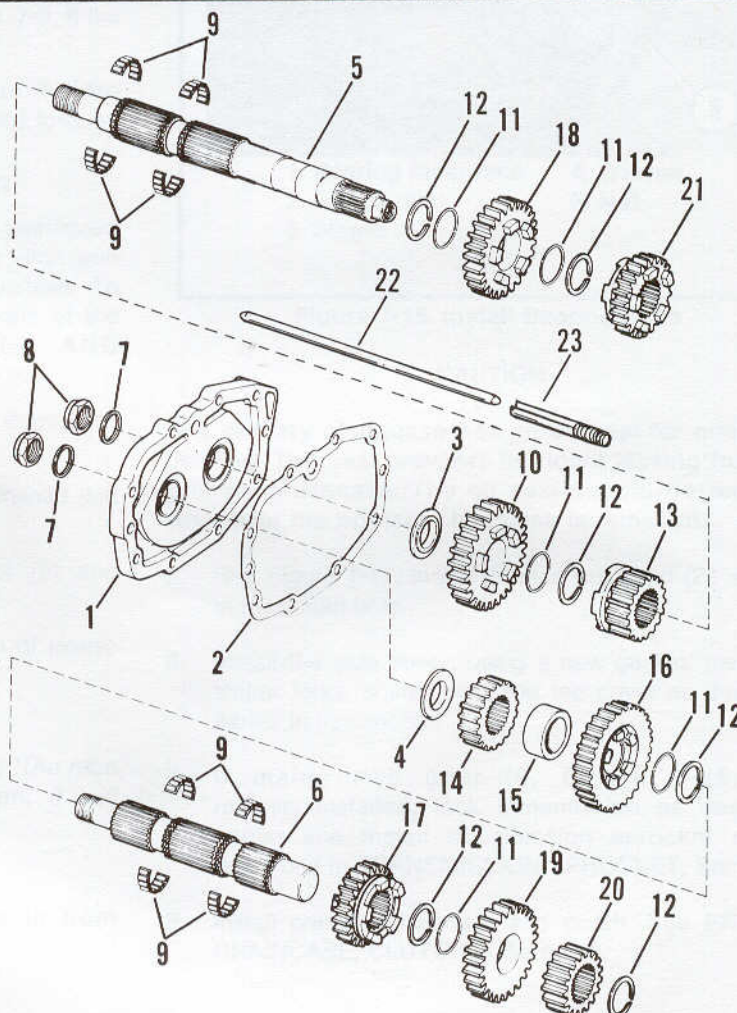

Figure 7-17. Mainshaft, Countershaft Assembly
8. See Figure 7-17. Remove the locknuts (8) and spacers (7) from the shafts.
5. See Figure 7-17. Install 2-piece push rod (22 and 23) in mainshaft hole.
1. See Figure 7-17. Remove the 2-piece push rod (22 and 23) from the hole in the mainshaft. Use RETAINING RING PLIERS, Part No. J-5586, to remove all retaining rings (12),
2. With access door on end (shafts pointing upward), remove the retaining ring (12) from the countershaft (6). Remove the countershaft 5th gear (20) and countershaft 2nd gear (19).
3. Remove the bearings (9), retaining ring (12) and countershaft 3rd gear (17).
4. See Figure 7-17. Remove mainshaft 2nd gear
(21) and leave 4th and 1st gear respectively on each shaft.
ASSEMBLY(Figure 7-17)
1. See Figure 7-17, 7-19. Slip thrust washers (11) and retaining rings (12) on mainshaft and countershaft. Slip mainshaft 4th gear on mainshaft and countershaft 1st gear on countershaft.
2. Lightly coat bearings (9) with oil and install the bearings on the mainshaft (5) bottom race. Slide mainshaft 4th gear (10) over the bearings. Install one
6. See Figure 7-17, 7-20. Place side door (1) in an arbor press. Support inner bearing races with a suitable socket. Press the shafts into the bearings. With the shafts properly pressed into the bearings, spacers (3 and 4) will have no end play. The mainshaft (5) is installed to the left of the fork shaft hole when viewing the side door from the top.
7. Install one spacer (7) and nut (8) on each shaft and tighten the nuts finger tight. Do not tighten at this time. See REMOVAL/INSTALLATION.
8. Install a retaining ring (12) in the mainshaft groove just above 1st gear. Insert a thrust washer (11) on top of the retaining ring and place the bearings into the mainshaft race.
9. Place mainshaft 3rd gear (18) over bearings and secure 3rd gear with a thrust washer (11) and retaining ring (12).
10. See figure 7-17, 7-21. Install the mainshaft 2nd gear (21) on the shaft with the shifter fork slot towards the side door.
11. See Figures 7-17, 7-22. Install countershaft 3rd gear (17) with shifter fork slot facing away from the side door.
12. Install a retaining ring (12) in the countershaft groove above 3rd gear (17). Slide a thrust washer (11) on top of the ring and place the bearings in the countershaft race.
13. See figure 7-17, 7-23. Install the countershaft 2nd gear (19) over the bearings.
14. Install the countershaft 5th gear (20) on the countershaft. Secure 5th gear with a retaining ring.